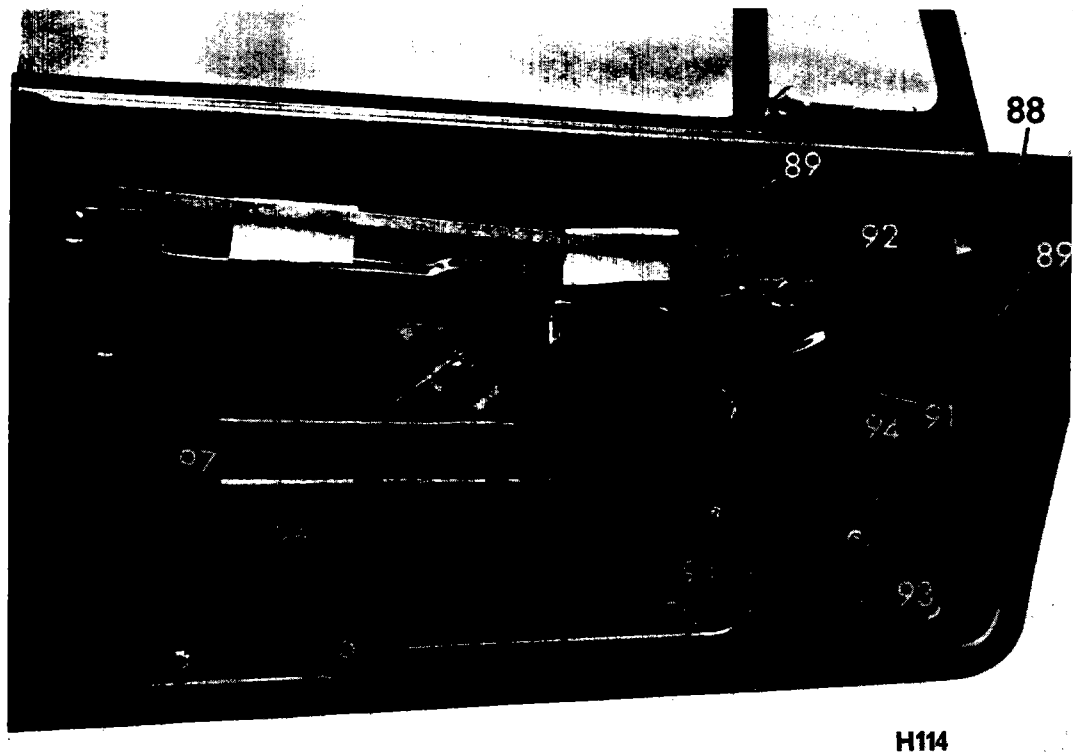

Fig. 64. Door component attachment
- (c) Remove the spring clip (56) with waved washer (57) and release the link arm from the lock assembly.
- (d) Take out three screws (92) and remove the remote control mechanism (59) from the door.
- 2. **To Align the Unit** (Fig. 64)
- (b) Slacken three screws (92) and slide the remote control towards the lock until the lock lever comes in contact with its stop. The holes in the remote control unit are elongated for adjustment purposes.
1. To Remove (Fig. 64)